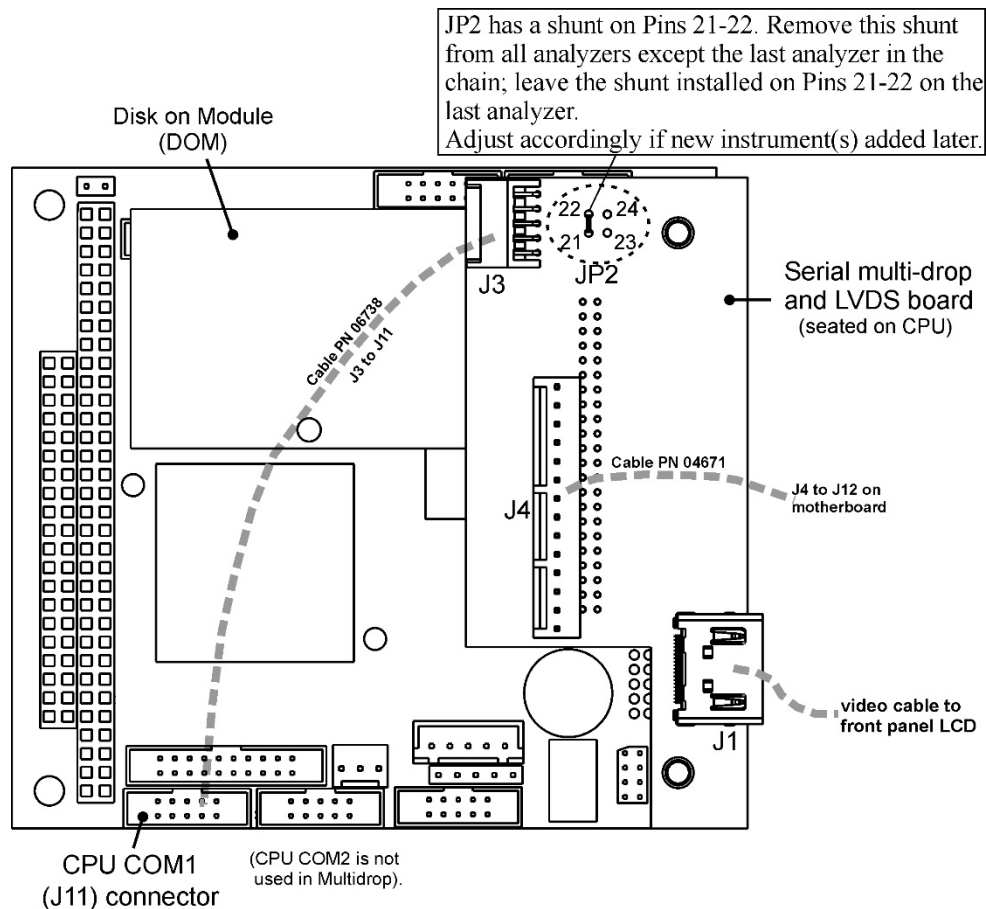

Figure 2-13. Jumper and Cables for Multidrop Mode
In each instrument with the Multidrop option there is a shunt jumpering two pins on the serial Multidrop and LVDS printed circuit assembly (PCA), as shown in Figure 2-13. This shunt must be removed from all instruments except that designated as last in the multidrop chain, which must remain terminated. This requires powering off and opening each instrument and making the following adjustments:
3. Check that the following cable connections are made in *all* instruments (again refer to Figure 2-13):